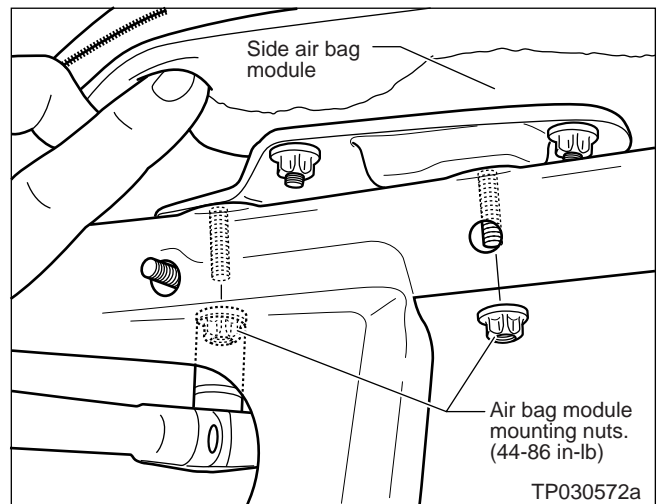

Figure 11
13. Install the **new** air bag attaching nuts (see Figure 11).